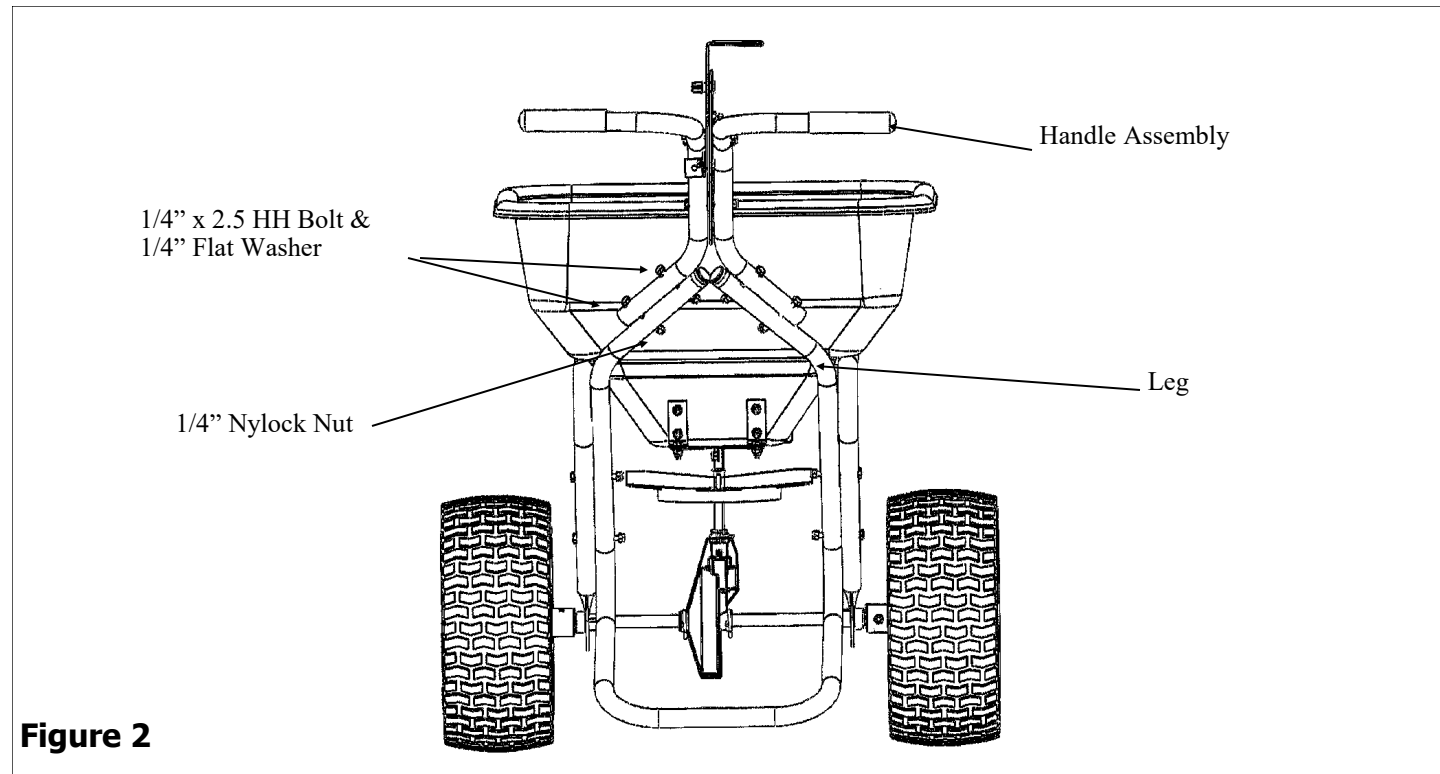

Figure 2
2. Attach Handle Assembly to the outside of the Leg. Using four 1/4" x 2-1/2" Hex Head Bolts, attach a 1/4" Flat Washer to each bolt insert through the Handle then through the Leg, place another 1/4" Flat Washer onto each bolt and secure with a 1/4" Nylock Nut. See Figure 2.